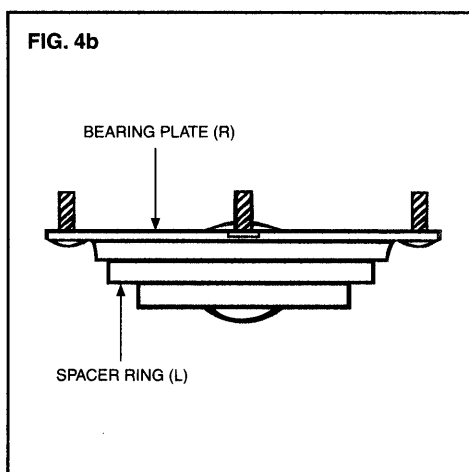

FIG. 5
10. (FIG. 5) Using a suitable spring compressing tool (A), compress spring (B) to an approximate height of 11.875 INCHES. This will ensure correct height before placement onto the strut assembly. **CAUTION: Coil Spring is under compression load when installed. Attempts to install without properly restraining this load may result in injury.**
14. (FIG. 5) Slowly remove the spring compressing tool (A).